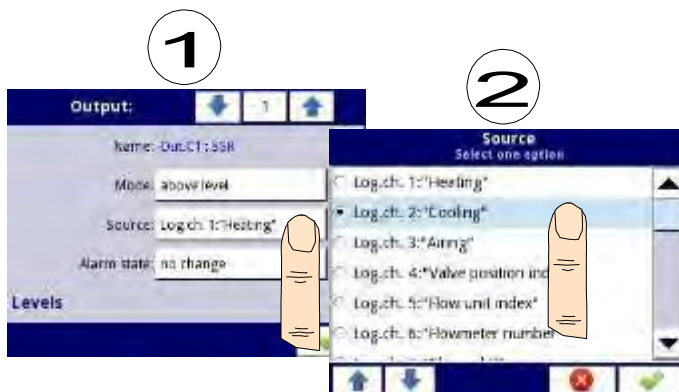

Fig. 7.79. Data source settings for built-in output (for SSR output module)
- Source – this parameter contains a list of logical channels (up to 60), where the selected logical channel will be a data source for this built-in output (see Fig. 7.79).
- Source - this parameter contains a list of logical channels (up to 60), where the selected logical channel will be a data source for this built-in output (see Fig. 7.79).
- Source – this parameter contains a Logical channels list, where the selected logical channel will be a data source for this built-in output (see Fig. 7.79),